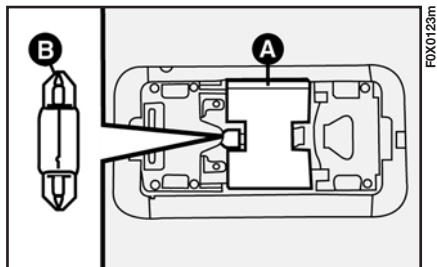

fig. 143
- open the reflector A-fig. 143 and replace cylindrical bulb B, releasing it from the side contacts.